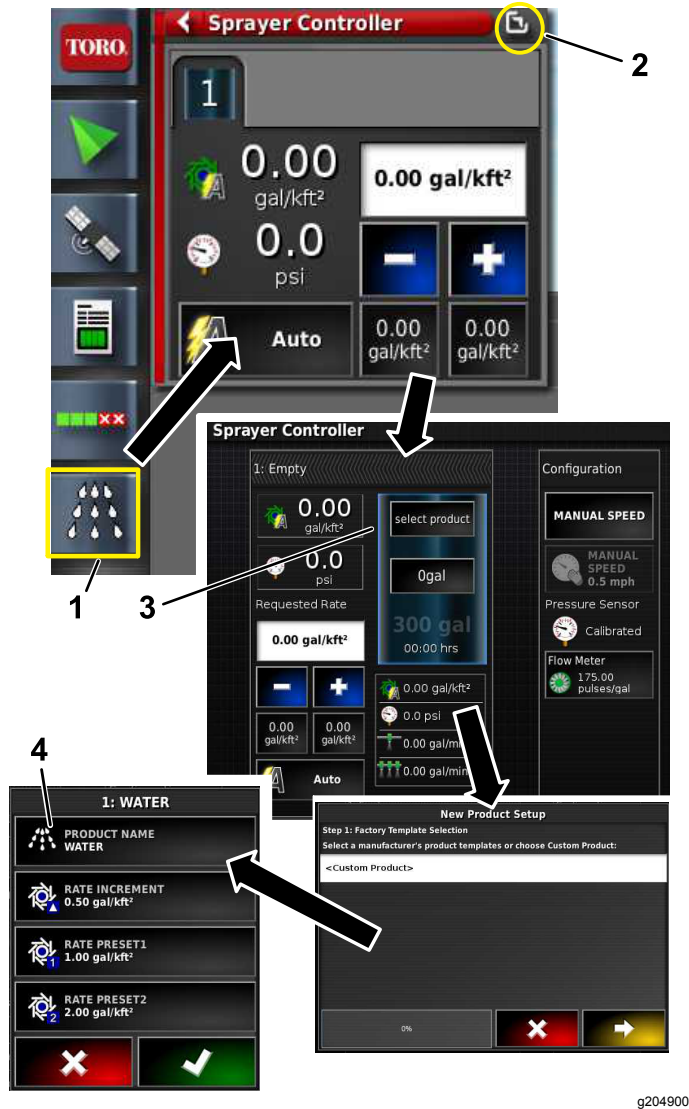

Figure 7
5. Name the product, select the rates, and select the rate increment (Figure 7).